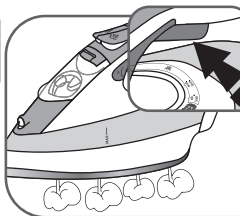

Fig.10
- During your ironing session, hold down the trigger located under the handle (at least 5s at a time) to obtain a constant flow of steam and guarantee the best results – fig.10. When the trigger is released, the steam stops.